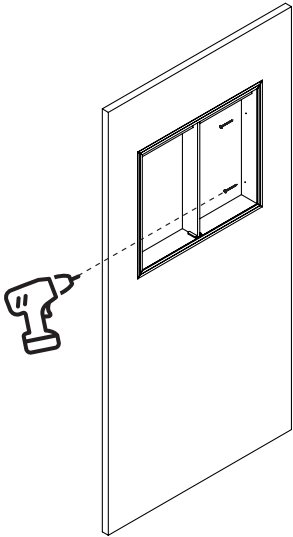

Fig 5.
6. Using a suitable screwdriver or drill, secure the cabinet into the wall aperture, via the two holes located on the internal edge of the cabinet using the supplied screws (two on each side) *see Fig. 5*.